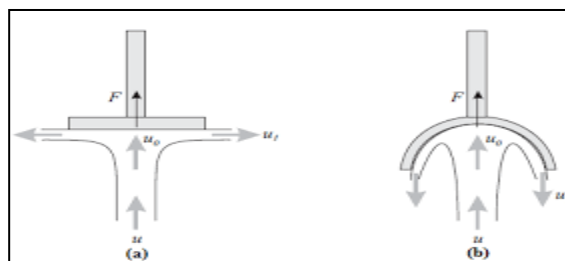

Fig. 8 Impact of Jet on vanes
8.1 Determine the reaction forces produced by the change in momentum of a fluid flow when a jet of water strikes a flat plate. Stationary surfaces like flat and curved vanes as shown in Fig. 8.
9.2 Calculate the overall efficiency of Pelton turbine. The testing apparatus are shown in fig. 8.